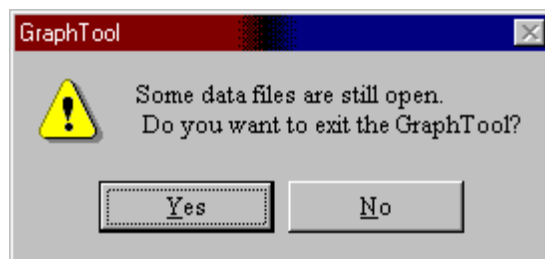

Figure 5.5 Exiting GraphTool
2. If a GraphTool window is open, a confirmation message is displayed (see Figure 5.5). Select **Yes** to exit GraphTool, or select **No** to cancel your request.